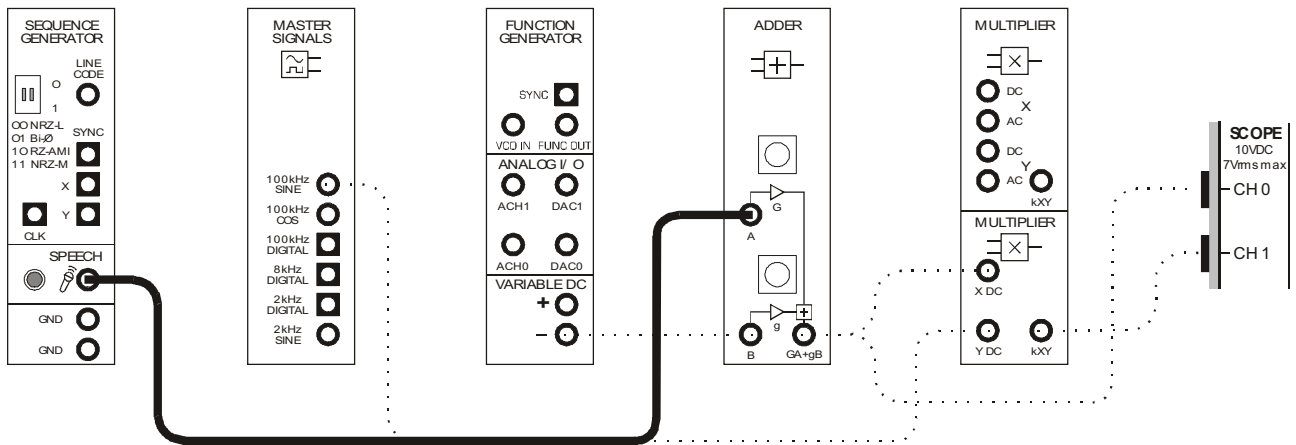

Figure 8
29. Connect it to the Speech module's output as shown in Figure 8 below.